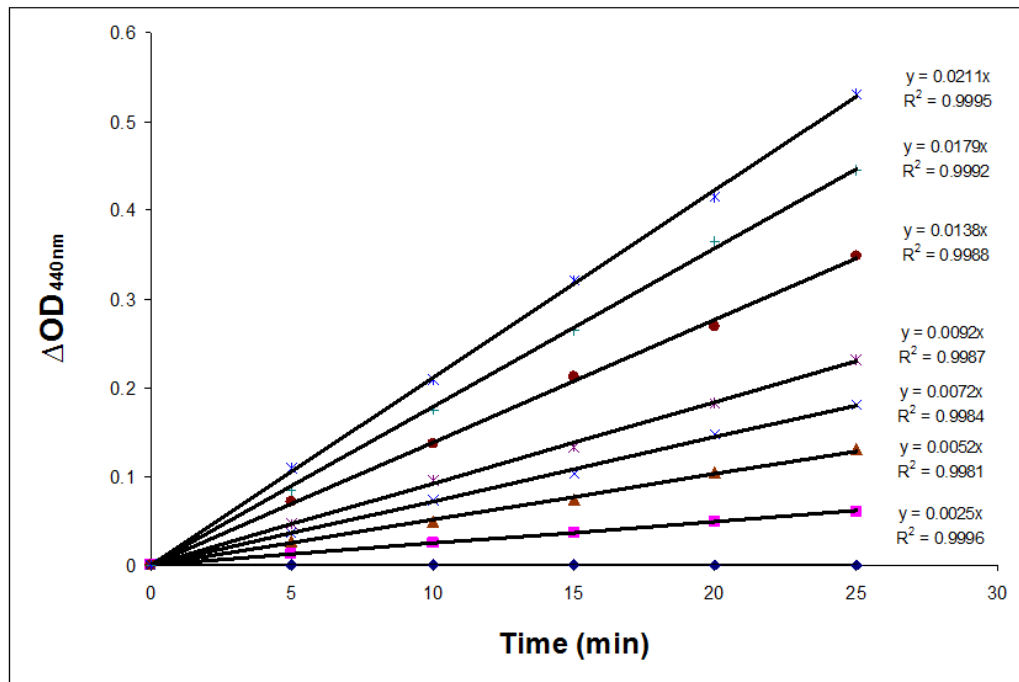

Figure 1. Absorbance change at 440 nm over 25 minutes of seven test samples using this kit.
9. Determine the change in absorbance $\Delta OD_{440nm}/\text{min}$ by plotting the ΔOD_{440nm} value as a function of reaction time to obtain the slope of the linear portion of the curves. Figure 1 shows an example of assaying HAT activity using this kit.
HAT activity of seven cell lysate samples is measured following the procedure of this kit. All samples were diluted 1:8 first, then 10 μL of each diluted sample was measured in a 100 μL final volume. The slope of $\Delta OD_{440nm}/\text{min}$ of each sample is shown in Figure 1 and Table 1. The calculated HAT activity is shown in Table 1.